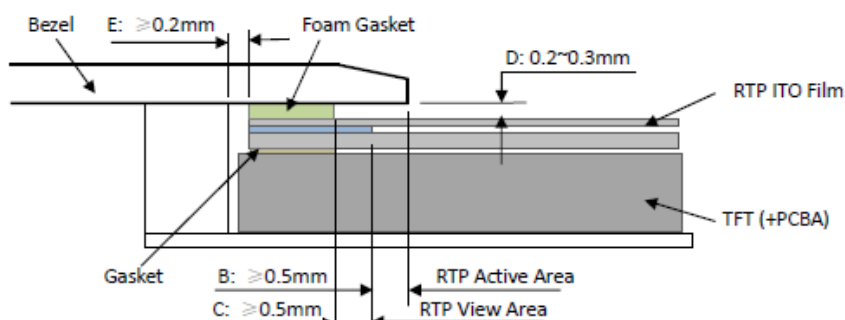

Figure 4
- It should bezel touching the RTP Active Area (A.A.) to prevent abnormal touch. It should left gap $D=0.2\sim 0.3\text{mm}$ in between. (Figure 4)
- Outer bezel design should take care about the area outside the A.A. Those areas contain circuit wires which is having different thickness. Touching those areas could de-form the ITO film. As a result bezel the ITO film be damaged and shorten its lifetime. It is suggested to protect those areas with gasket (between the bezel and RTP). The suggested figures are $B\geq 0.50\text{mm}$; $C\geq 0.50\text{mm}$. (Figure 4)
- The bezel side wall should keep space $E=0.2\sim 0.3\text{mm}$ from the RTP. (Figure 4)
- 为避免面框直接压在动作区 (A. A.) 上造成误动作, 面框与电阻触摸屏 (RTP) 之间应留有一定的空隙 $D=0.2\sim 0.3\text{mm}$ 之间. (附图4)
- 设计面框时, 要注意用面框保护触摸屏四周的非保证操作区域, 因为布线区域在此处形成一台阶, 在此区域附近操作时 ITO Film 变形较大, 容易导致 ITO 损坏而降低寿命. 为保护 RTP 和避免误操作, 在 RTP 与面框之间垫缓冲物 (Gasket), 我们建议设计面框应覆盖动作区的边缘, 面框边缘到 V. A. 区的距离 $B\geq 0.50\text{mm}$; 垫圈内边缘到 V. A. 区的距离 $C\geq 0.50\text{mm}$. (附图4)
- 在设计面框与 RTP 组装时, 应考虑到面框内侧与 RTP 外侧的间距 $E\geq 0.2\text{mm}$. (附图4)